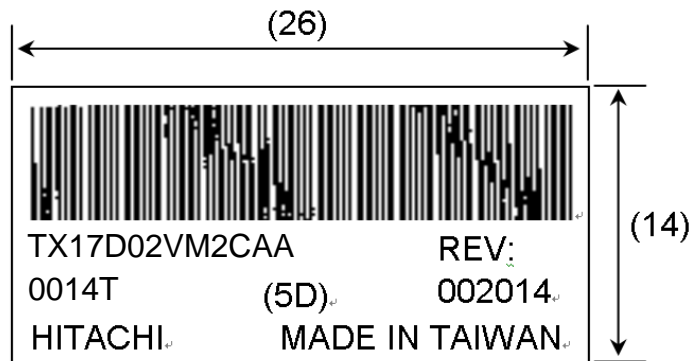

Fig 13.2
4) The location of the lot mark is on the back of the display shown in Fig. 13.2.